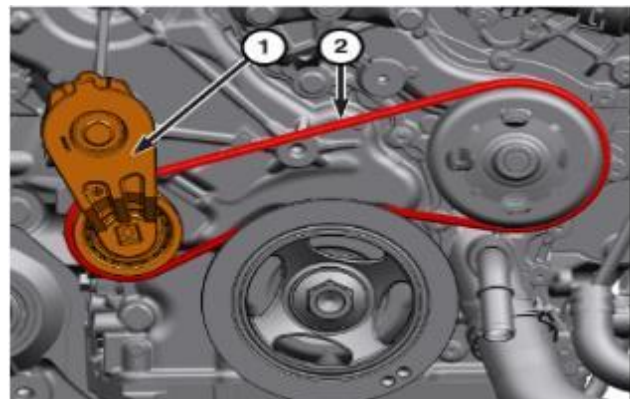

Figure 7 – Belt Tensioner
6. Rotate the belt tensioner (1) until it contacts its stop (Figure 7).
14. Rotate the belt tensioner until it contacts its stop position. Route the serpentine belt around the idler and slowly let the tensioner relax. Make sure the belt is properly seated onto all pulleys (Figure 7).